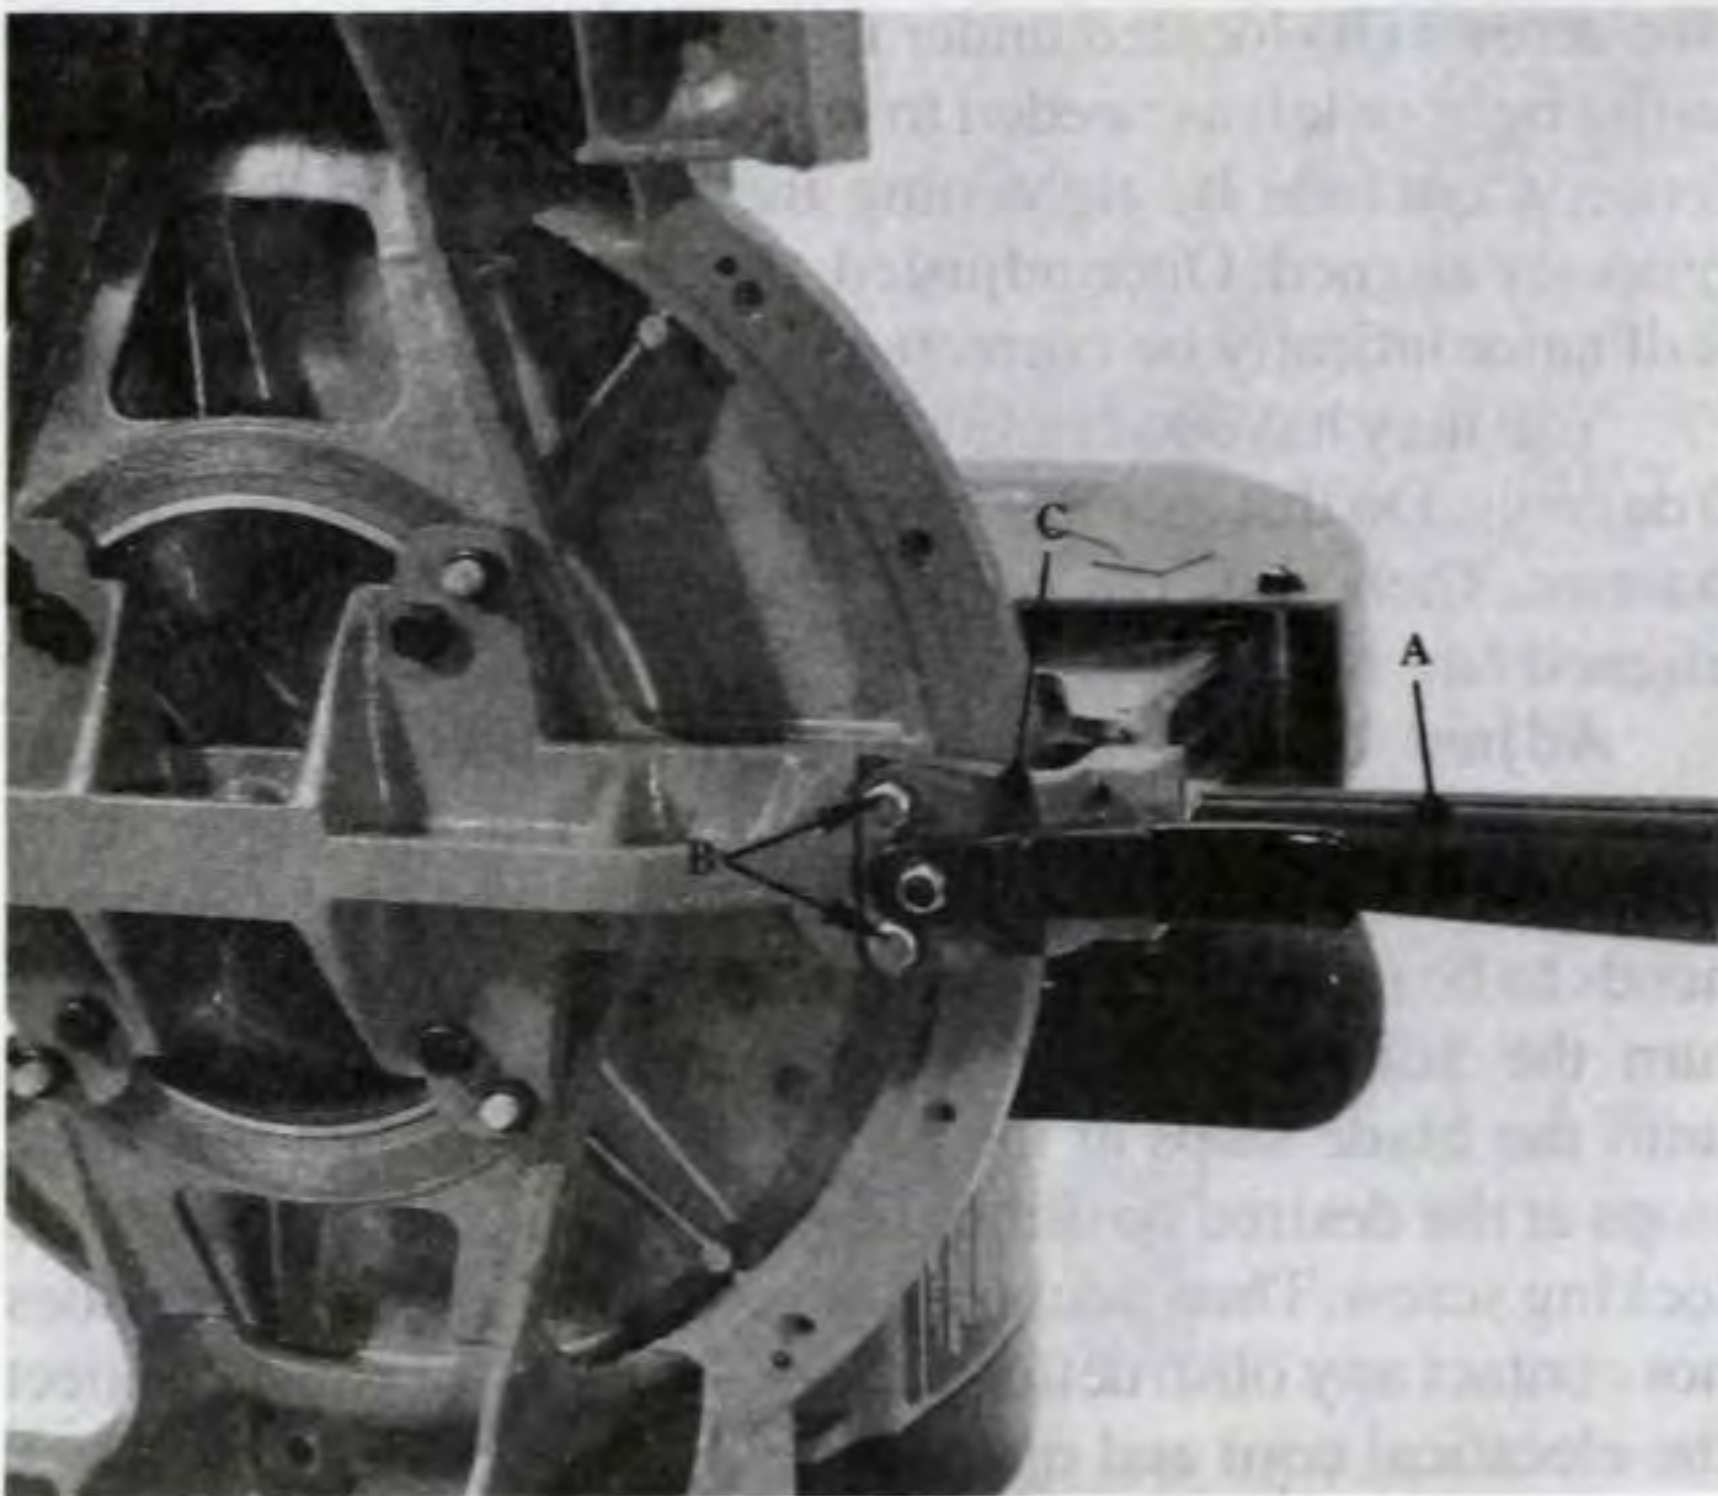

Figure 11. Adjusting the table's positive stop mechanism.
If the index table is too far out of adjustment, you will have to adjust the positive stop mechanism. Begin by setting the table at the 0 degree positive stop. Refer to Fig. 11 for the following instructions. Loosen the lock arm handle (A) and